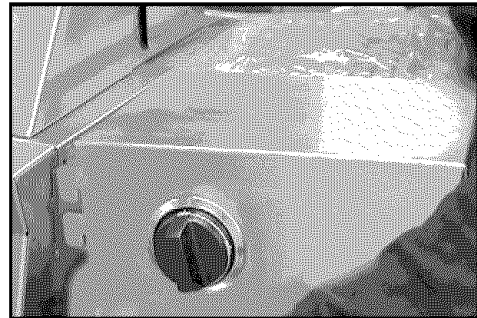

Fig. 19
1. Attach the Side Burner to the grill by inserting the shelf hooks into the slots on the side of the grill and pushing down on the shelf assembly until level with the grill (See Fig. 19)